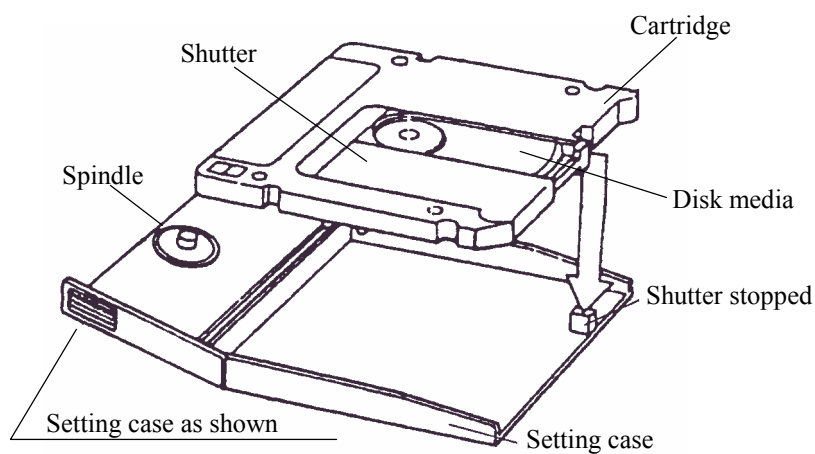

Figure 5.7 Cleaning procedure (2)
- 2) Set the cartridge with keeping label side down and shutter open to the shutter stopper of the setting case as shown in Figure 5.7.